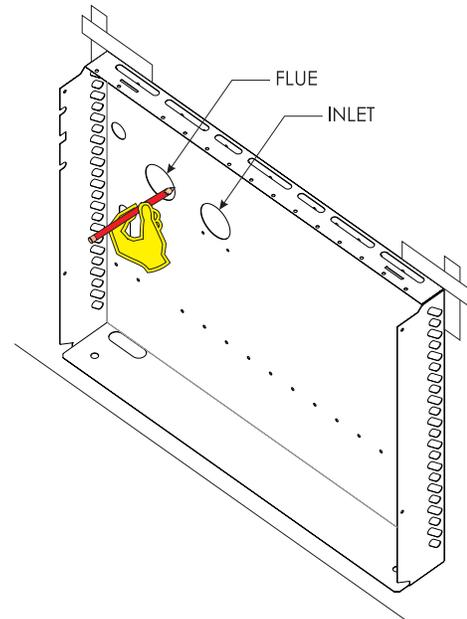

Figure 2
3. Mark corners of shroud with masking or painter's tape. Mark flue and inlet (if used) pipe holes. **See Figure 2.**